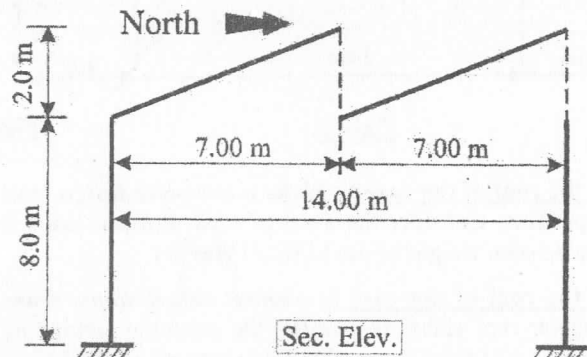

Fig. 6
- B. Figure 6 shows a sectional elevation of an industrial hall having 14m width and 40m length. a north-light roof is required to cover this hall. The executed glass windows were vertical. It is required to: